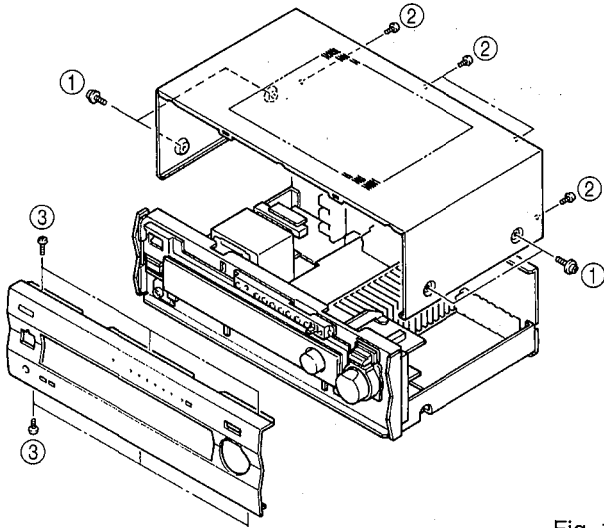

Fig. 1
Remove 4 screws (①) and 4 screws (②) in Fig. 1.
a. Remove 6 screws (③) in Fig. 1.